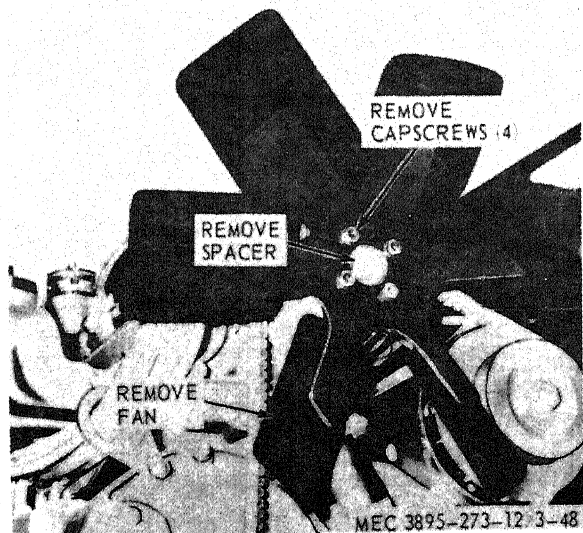

Figure 3-45. Fan assembly, removal and installation.
- (1) Remove the fan belt (para 3-76).
- (2) Remove the fan assembly as instructed on figure 3-45.
- (1) Install the fan assembly in reverse of the instructions on figure 3-45.
- (2) Install the fan belt (para 3-76).